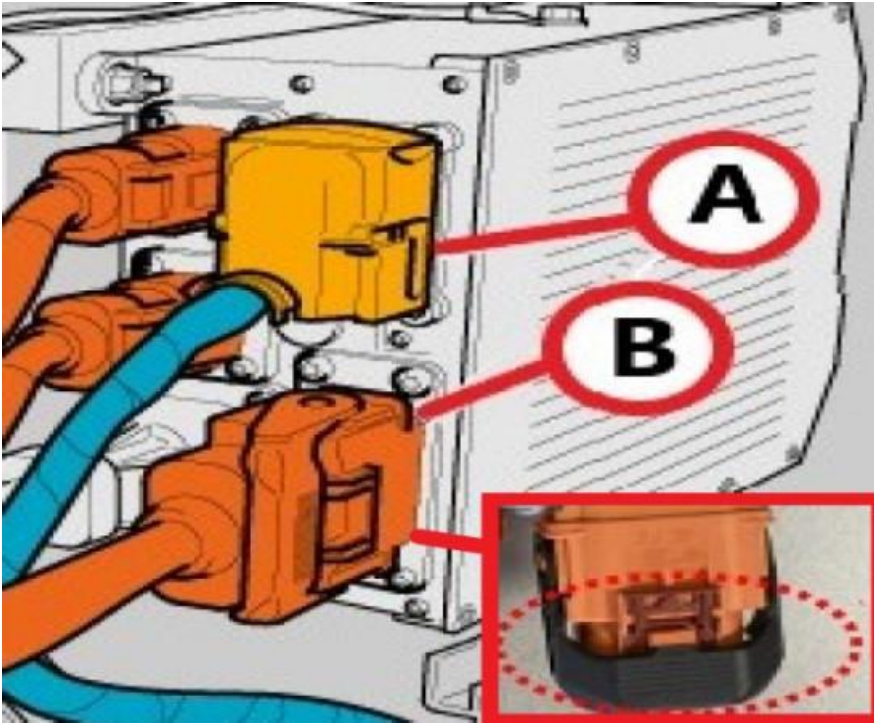

Figure 1
IMPORTANT: In the event that any of the plugs shown in Figures 1 and 2 are found not to be secure (primary and secondary latch are not fully locked into position) the operative must respond via the open DISS query and await feedback before conducting any further work
4) Referring to Figure 1 point A - Check and confirm the primary and secondary latches are fully locked in position